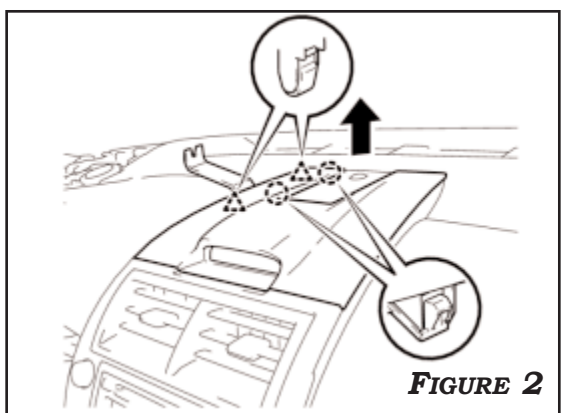

FIGURE 2
2. USE A TRIM TOOL TO DISENGAGE CLIPS AND DISCONNECT THE CONNECTOR TO REMOVE THE CENTER FINISH PANEL ASSEMBLY. **FIGURE 2**